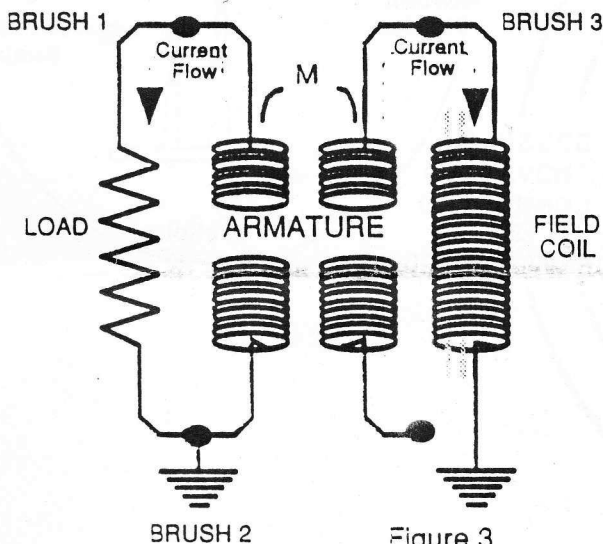

Figure 3
The electrical output of the generator is influenced by the rotational speed, the number of coils on the armature, and the strength of the magnetic field. The Model "A" generator has fourteen separate coils on the armature. This means for every revolution of the generator, there are twenty-eight outputs or peaks produced, two for each segment. This unregulated output is sometimes called pulsating Direct Current (DC). See figure 3 for a schematic of the internal Model "A" generator circuit.